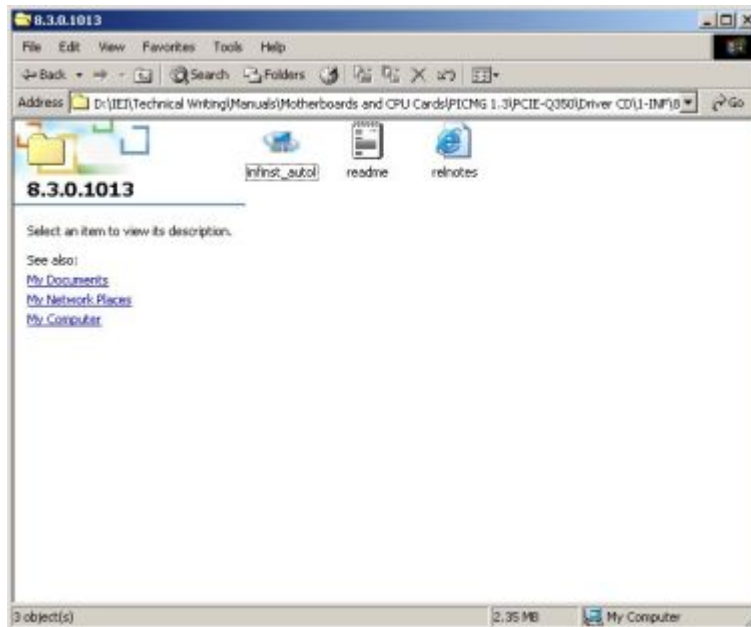

Figure 7-4: Intel® Chipset Driver Setup Icon
Step 5: The window in **Figure 7-4** appears.
Step 6: Click on the `infinst_autol` setup icon in **Figure 7-4**.